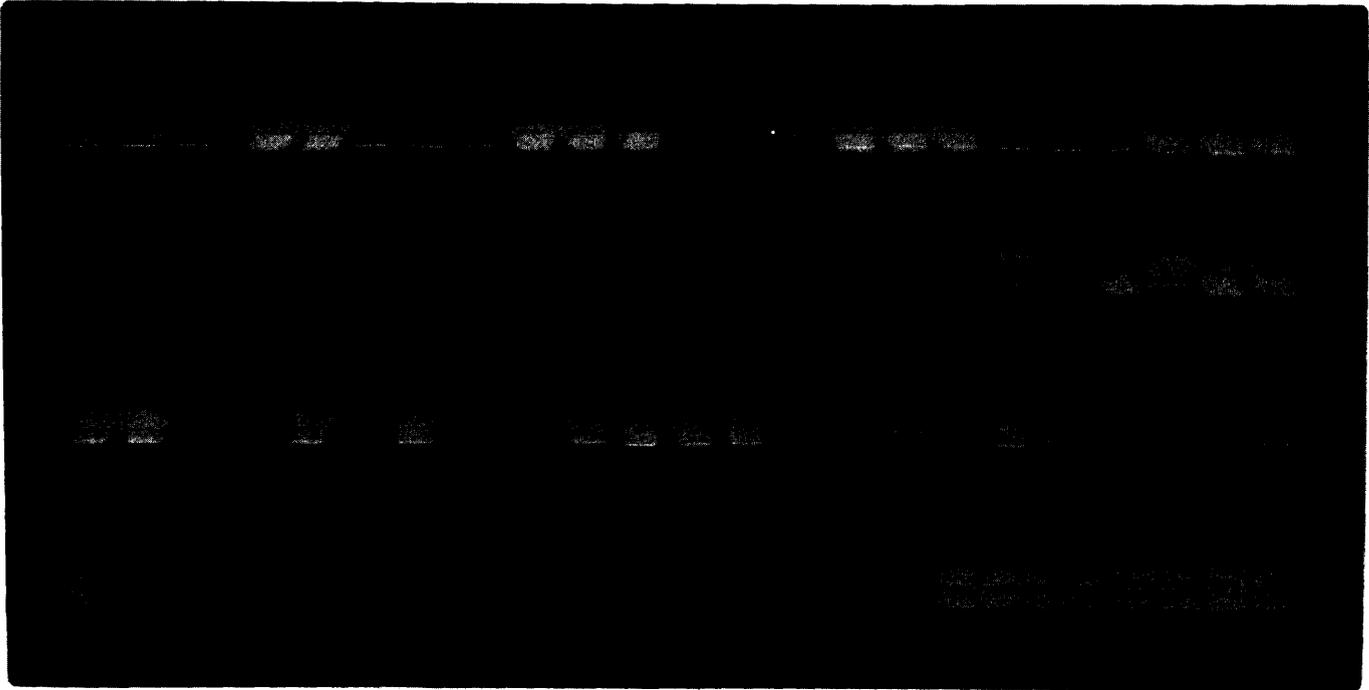

Fig. 4—3A CC Control Panel
**3.07** The 3A CC control panel (Fig. 4) provides a means of communication between the user and the 3A CC for maintenance purposes. The